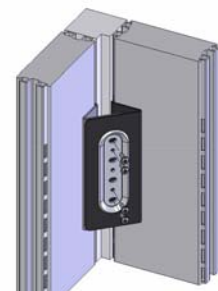

Figure 4
3. Secure the mounting bracket (supplied with your mounting assembly) by loosely installing four 10-24 pan head screws (see Figure 4).